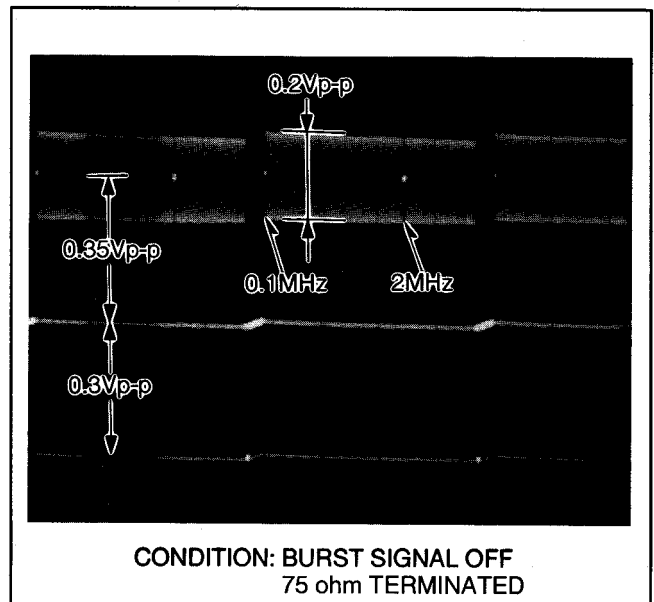

Fig. E7
- Note: 1. Set the Video Sweep Signal as shown in Fig. E7.